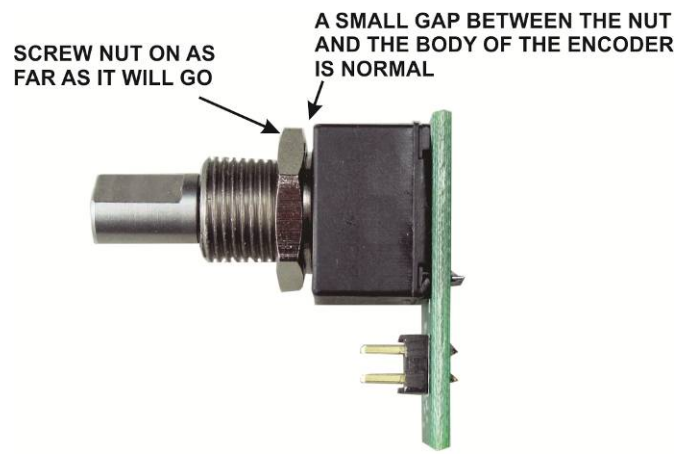

Figure 15. Preparing the VFO Encoder for Installation.
□ Locate the VFO encoder, lock washer and two hex nuts. Thread one nut onto the shaft until it reaches the end of the threads as shown in Figure 15. Note that a small gap between the nut and the encoder body is normal.